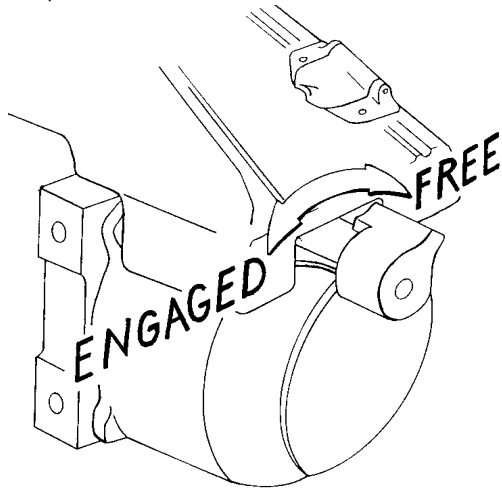

Fig. 16
Rotate the clutch lever to the "Free" position as shown in Figure 16. If there is a load on the wire rope, the clutch lever may not turn easily. **DO NOT FORCE THE CLUTCH LEVER.** Release tension on the wire rope by joggling out some of the wire rope, then try releasing the clutch. Pull out the wire rope and secure to anchor or load. Check that there are at least five (5) turns of wire rope left on the drum. Re-engage the drum by rotating the clutch lever to the "Engaged" position (See Figure 16).